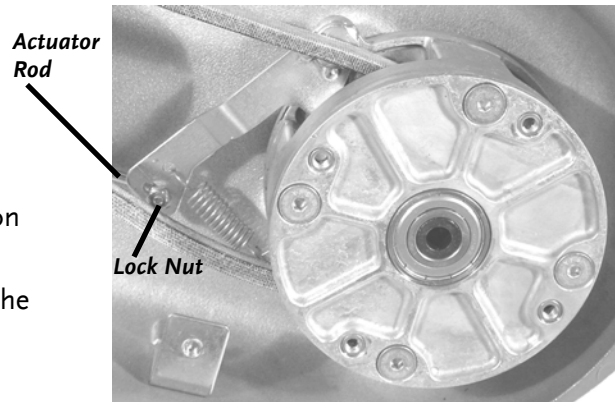

Figure 29
4. Using a 3/8" Socket, remove the Lock Nut from the Brake Actuator Rod and remove the Rod from the Brake Arm (*Figure 29*).